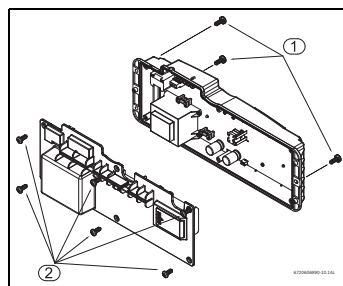

Fig. 7
the electronic board (PCB) (Fig. 7, pos.2).
- Remove the three screws from the control unit (Fig. 7, pos.1).